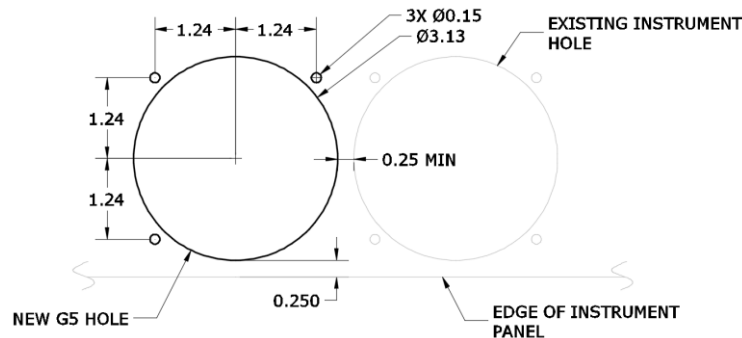

Figure 4-13, G5 Instrument Hole Dimensions
- 3) The dimensions and limitations of the hole must be as shown in Figure 4-13.